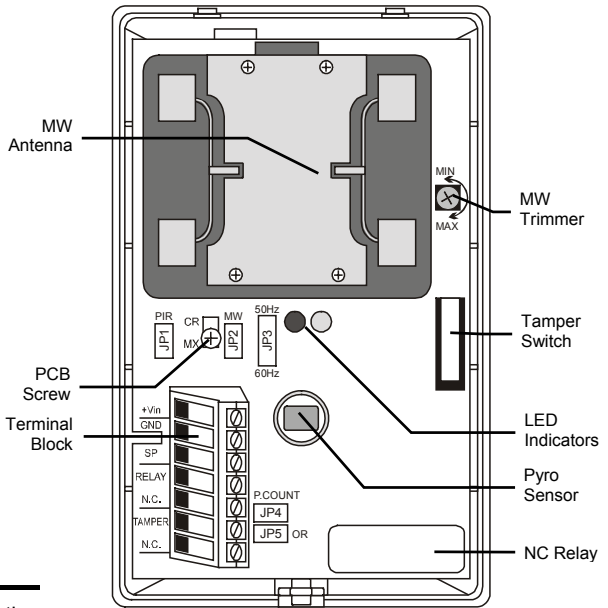
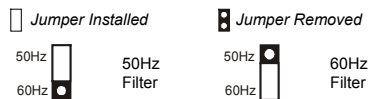

Figure 1: Cougar DT6 (cover off)
Figure 3: JP3 Configuration
**Fluorescent light interference filter:** The Cougar DT6 incorporates a filter that prevents false alarms from the MW section triggered by electro-magnetic fields generated by fluorescent lights, electric motors, etc. This filter must be set according to the local AC mains power frequency. To choose the frequency, install jumper JP3 according to Figure 3 – see Figure 1 for jumper location.
**Setting the pulse counter:** The pulse counter controls the amount of pulses that need to be detected before the detector will generate an alarm. Insert jumper JP4 for 1-Pulse mode, remove for 2-Pulse mode – see *Figure 1 for jumper location*.
**LED disable:** Jumpers JP1 (PIR LED) and JP2 (MW LED) are used to enable or disable the LED indicators – see *Figure 1 for jumper location*. Insert the jumper to enable the LED and remove the jumper to disable. **Note: Only disable the LEDs after successfully walk testing the detector.**
**AND/OR function:** In AND mode, the detector generates an alarm as a result of microwave and PIR detection. In OR mode, the detector generates an alarm if either the PIR or microwave detect motion. Insert jumper JP5 for OR mode, remove the jumper for AND mode – see *Figure 1 for jumper location*.